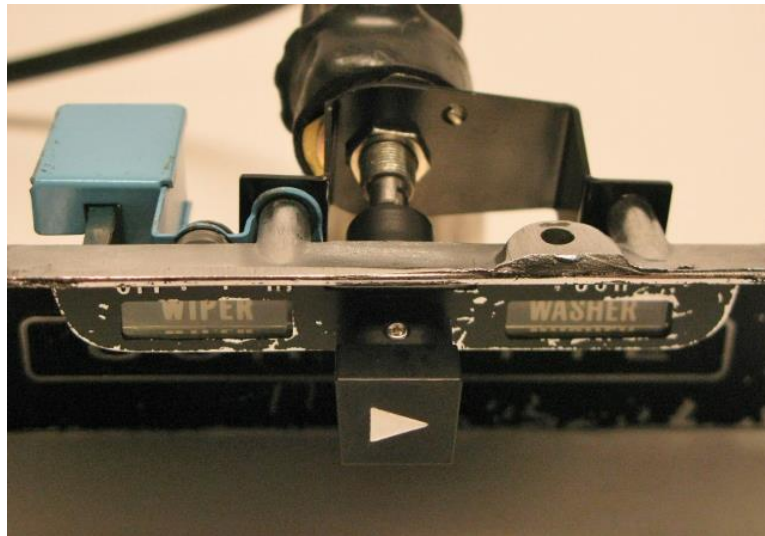

Figure 9 - Install DSE Wiper Knob
16. Slide the DSE wiper knob onto the switch extension. Align the set screw with the flat on the switch extension and tighten (Figure 9). **NOTE:** Make sure the set screw locks onto the flat on the switch extension.